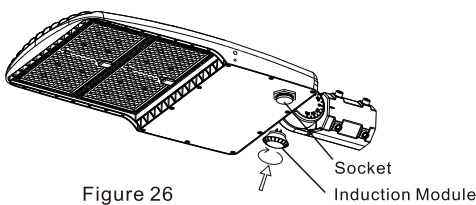

Figure 26
For products with motion sensor function, the induction module should be installed on the socket of the motion sensor.(Figure 26)
Step 3: Turn the induction module clockwise until it is tight. (Figure 26)